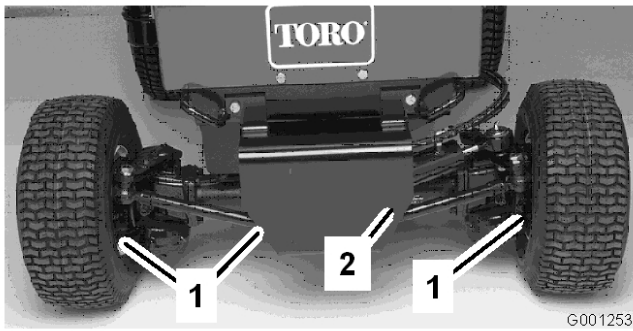

Figure 52
2. Clean the area around the 3 drain plugs, 1 on each end and 1 in the center (Figure 52).